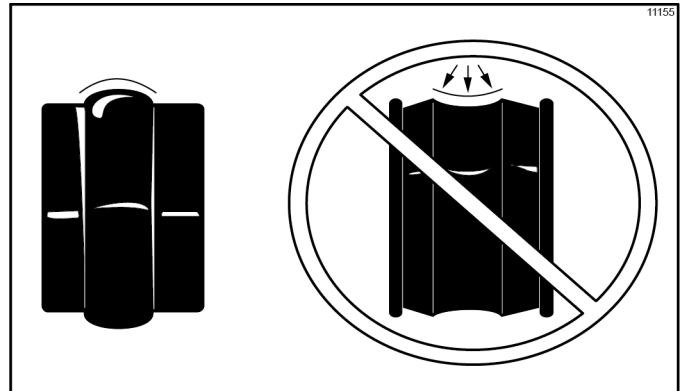

Figure 6-2
Note: To ensure that the mix does not leak out of the back of the freezing cylinder, the middle section of the boot seal should be convex, or extend from the seal. If the middle section of the boot seal is concave, or extending into the middle of the seal, turn the seal inside out. (See Figure 6-2.)
10. If the parts are in good condition, slide the three O-rings into the grooves on the draw valve and lubricate them. (See Figure 6-2.)